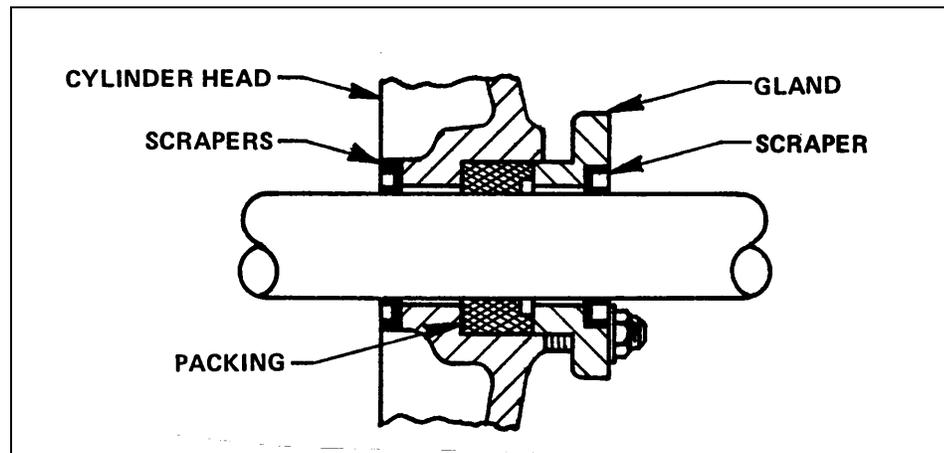

Figure 1 – Scrapper Locations
9. Remove the two scrapers. One scraper is found in the cylinder head, the other is in the gland. Figure 1 shows their location.